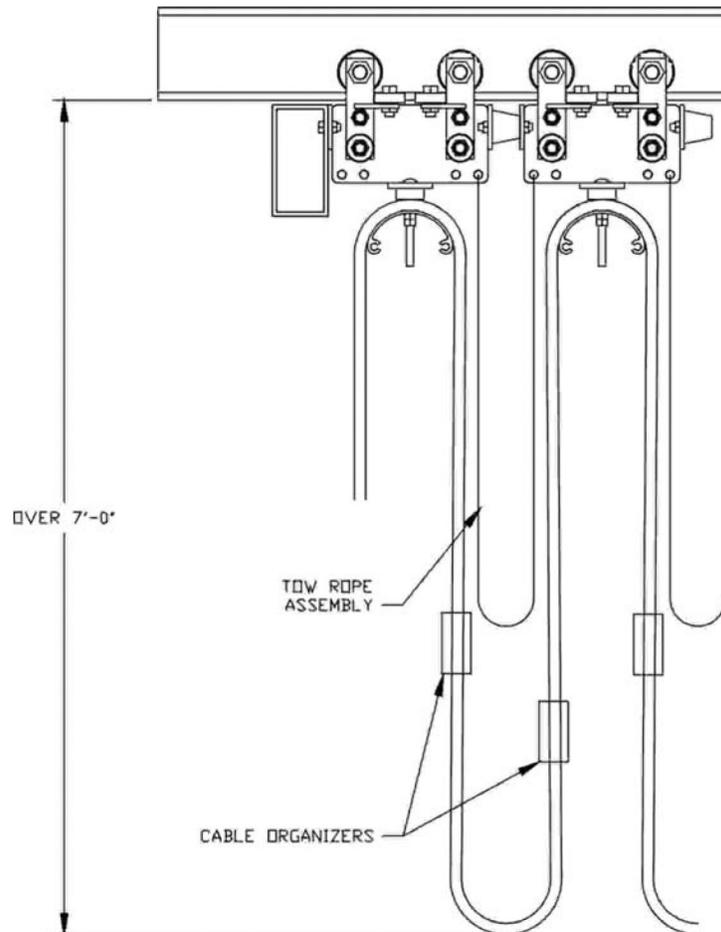

FIGURE 1
2.4.1.1 For flat cable, it is recommended to use two organizers per loop. Position the organizers in the lower third of the loop making sure to stagger the organizers on each side of the loop and allow 6-8" of distance between the upper and lower organizer. (See Figure 1)
2.4.1.3 For loop depths over seven feet, use two organizers per loop. Position the organizers in the lower third of the loop, making sure to stagger the organizers on each side of the loop. (See Figure 1)
2.4.3.1 Install organizer with the cable package setup as noted on page 7 in Figures 1 and 2, and tighten the bolts to the correct setting as indicated in Sec. 2.4.3.2 (See diagram below).